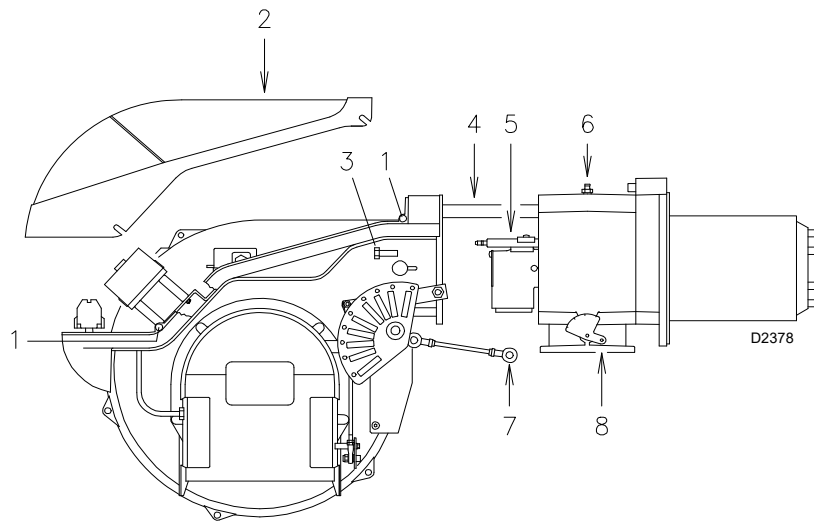

Fig. 38
- Loosen the 4 screws 1)(Fig. 38) and remove the cover 2).
- Replace the screws 3)(Fig. 38) and carefully pull the probe and electrode cables outwards until they are slightly taut.